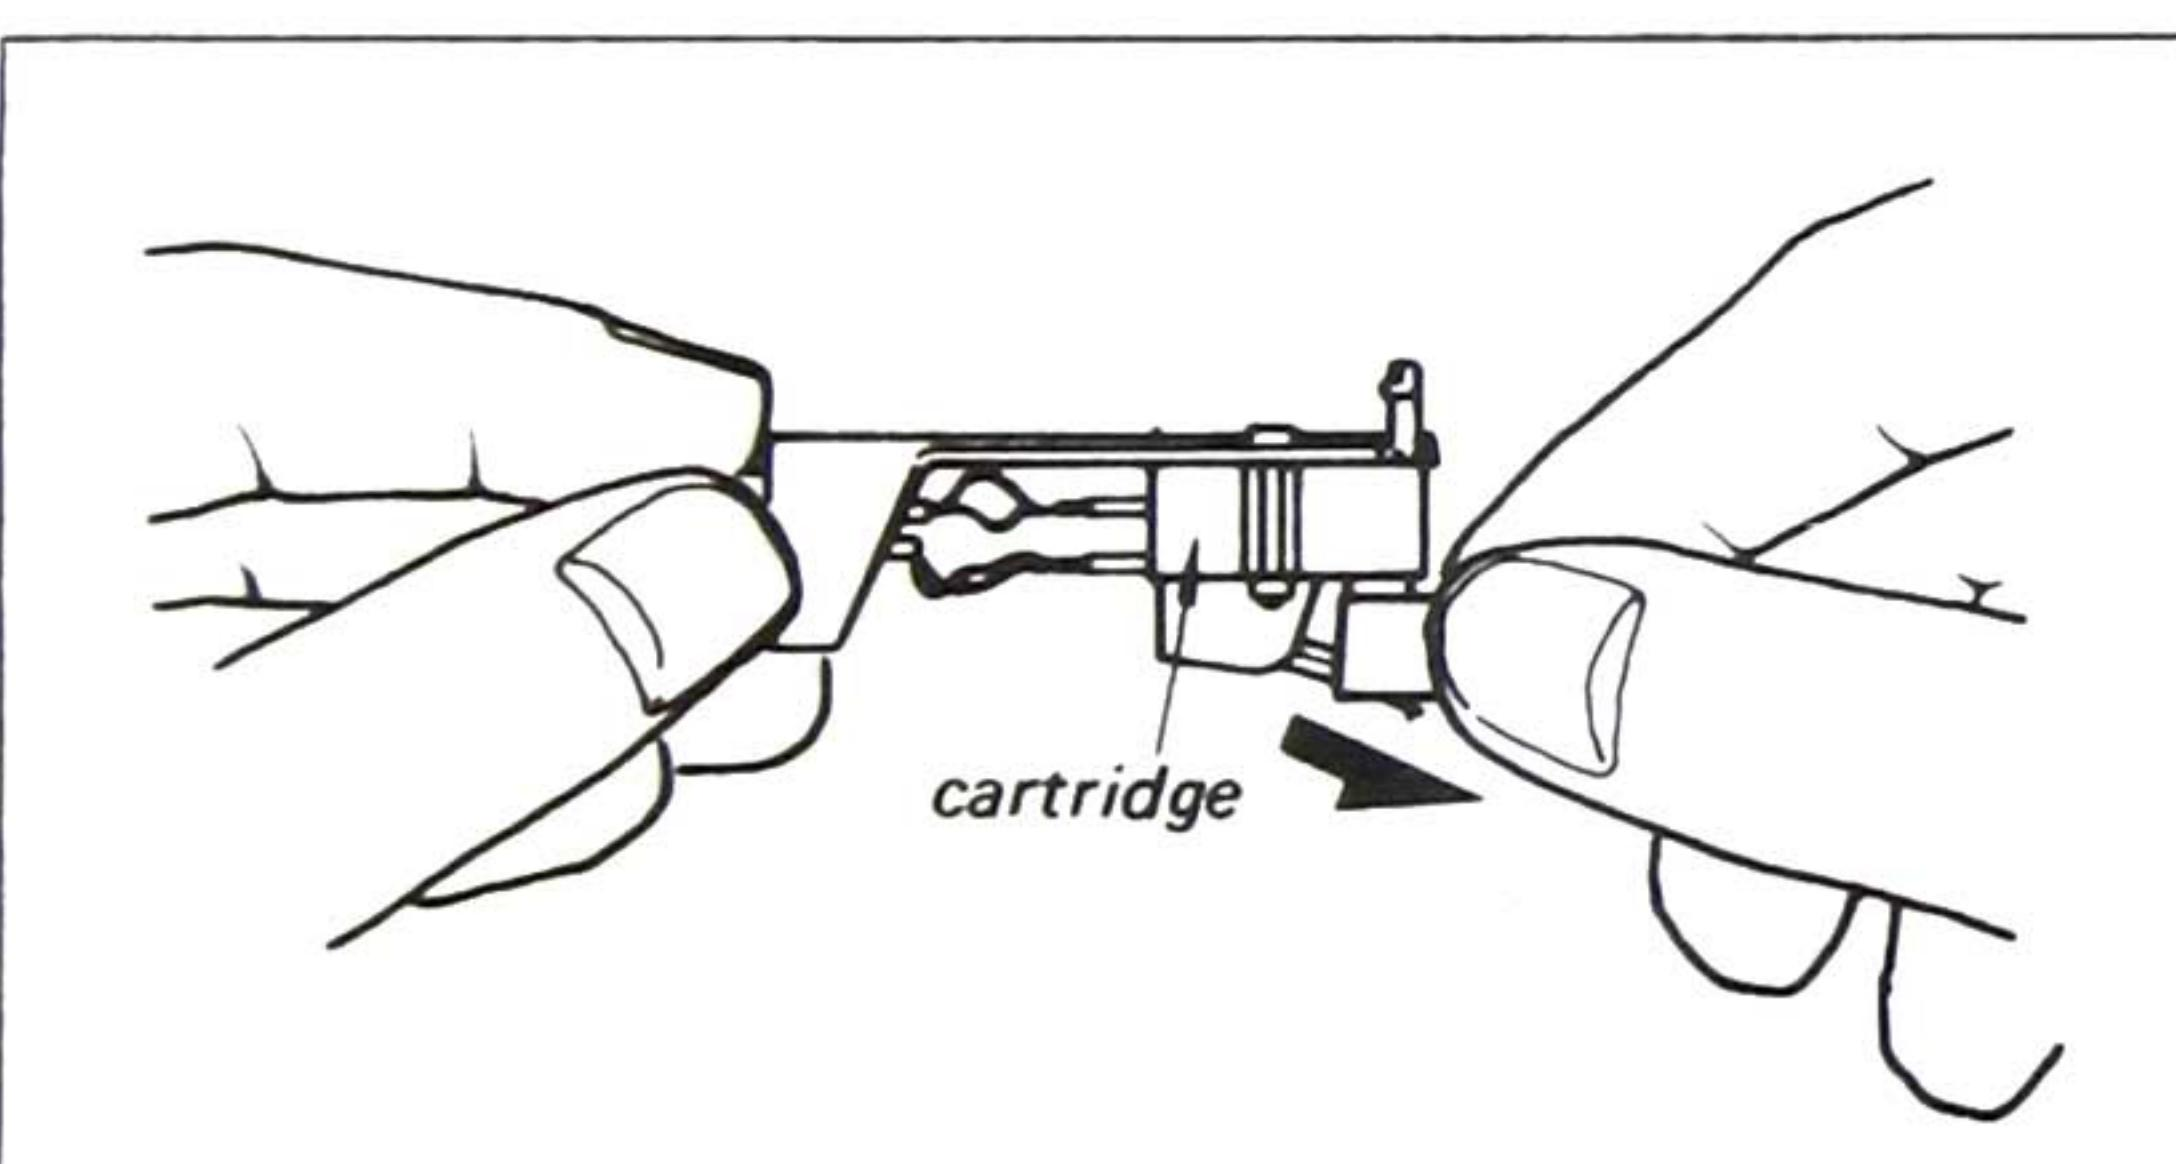

Fig. 2-7. Stylus tip replacement
2. Pull off the worn-stylus tip in the arrow direction as shown in Fig. 2-7, and insert the new stylus (ND-132G) into the cartridge.